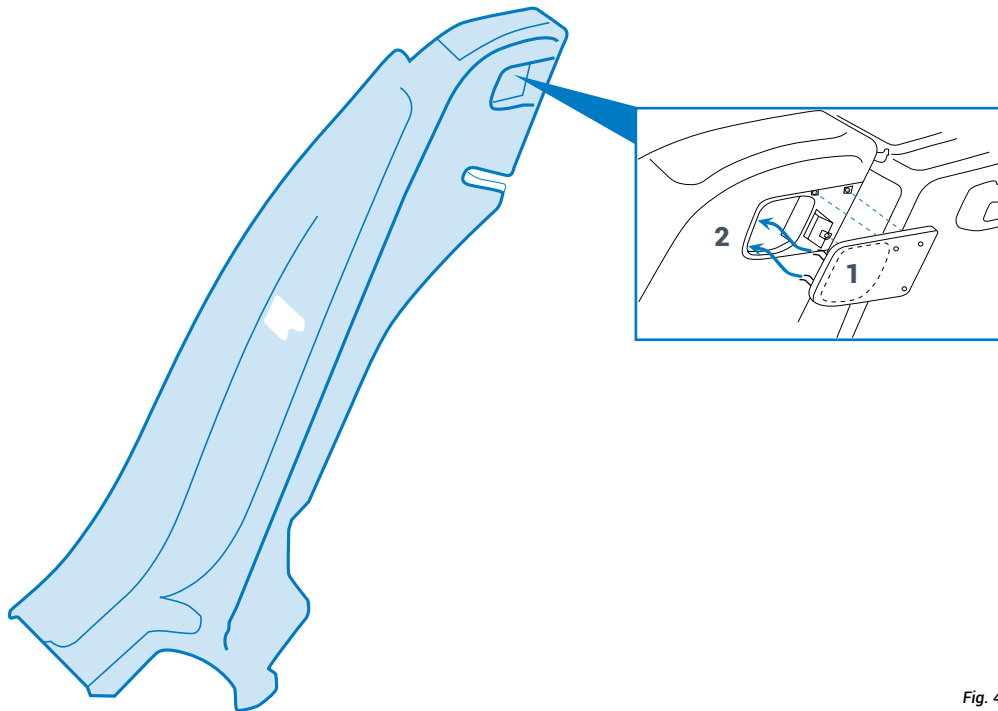

Fig. 4
6.2.2 Remove the cap from the upper part of the covering (figure 4) with a plastic lever.